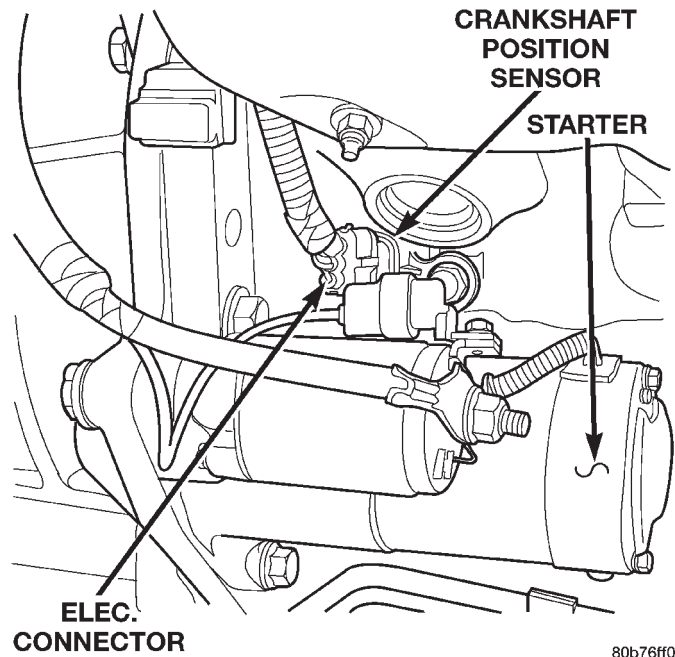

Fig. 30 CKP Sensor Location—4.7L V-8 Engine
The Crankshaft Position (CKP) sensor is bolted to the side of the engine cylinder block above the starter motor (Fig. 30). It is positioned into a machined hole at the side of the engine block.
- (2) Disconnect CKP electrical connector at sensor (Fig. 30).